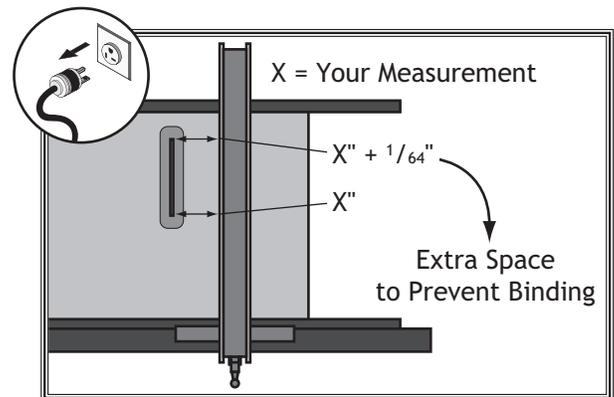

Figure 122. Adjusting fence with a $\frac{1}{64}$ " offset.
Some woodworkers prefer to offset the rear of the fence $\frac{1}{64}$ " from the blade, as shown in **Figure 122**, to help prevent the workpiece from binding and burning.
4. Measure distance between tooth and fence face, as shown in **Figure 122**.